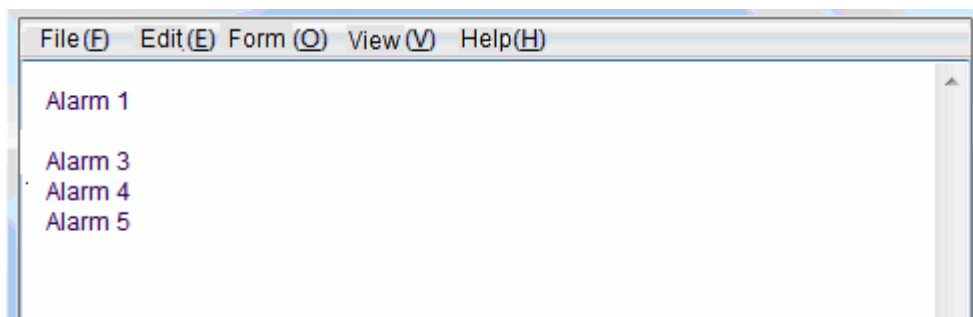

Figure 4-5 Use Notepad to edit customized alarm contents
(1) Edit the "e01.txt" file generated in the first step (edit customized alarm file), view the diagnosis list that 5J3-2 input port is 37, 5J3-9 input port is 38 and 5J3-5 input port is 27. The input content is as Figure 4-5.
(2) Save file and copy it to U disk. Import "e01.txt" into system in accordance with the second step (import alarm file into system).
(3) Configure parameter P119# as 2, configure parameter B284 as 0, configure B283 as 0 and configure B076 as 0.